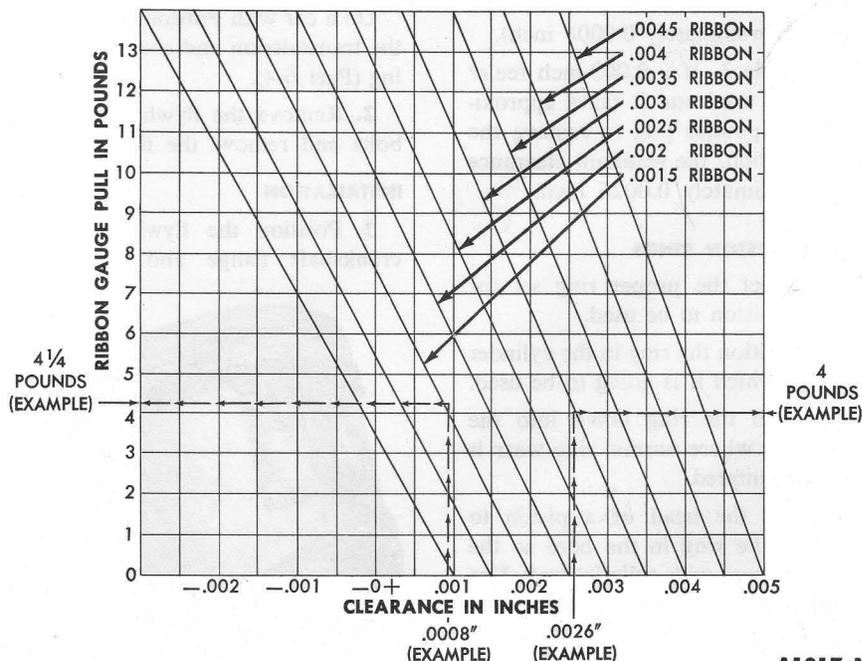

FIG. 67—Piston Clearance Chart
4. Attach a tension scale to the end of a feeler gauge ribbon that is free of dents or burrs. The feeler ribbon should be ½-inch wide and of one of the recommended thicknesses shown in Fig. 67.
In Fig. 67, the diagonal lines represent feeler ribbons of various thick-
Example 1. If a 0.0015-inch feeler ribbon is used and it takes approximately 4¼-pounds pull to remove the feeler ribbon, the clearance is approximately 0.0008 inch. This is determined by locating the pounds pull (4¼) in Fig. 67 and following the line to the right until it intersects with the diagonal line representing the 0.0015-inch feeler ribbon. Read down the vertical line for the clearance (approximately 0.0008 inch).